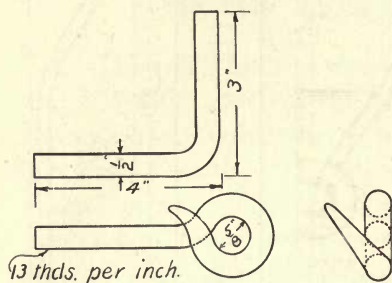
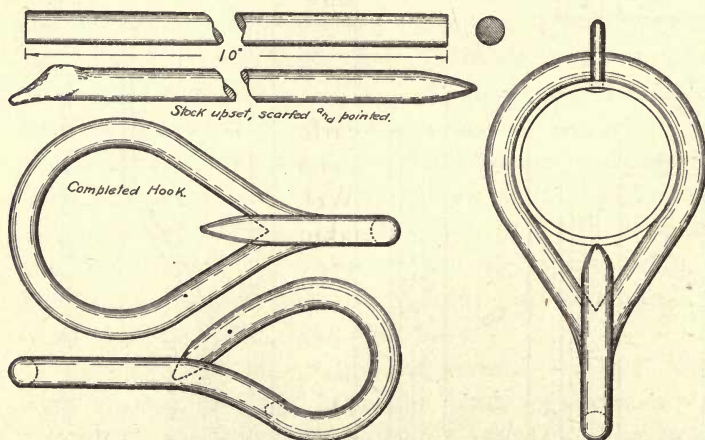

FIG. 208.—SINGLETREE HOOKS.
FIG. 209.—CLIPS FOR ENDS OF SINGLETREES.
2. If hooks as shown in Fig. 208 are to be used at the ends of the singletrees, make them of  $\frac{1}{2}$ " round iron. One end of each is drawn out to a blunt point and then
3. Clips as shown in Fig. 209 are better for the ends of the singletrees than the hooks shown in Fig. 208. For the flat rings covering the ends of the singletrees,